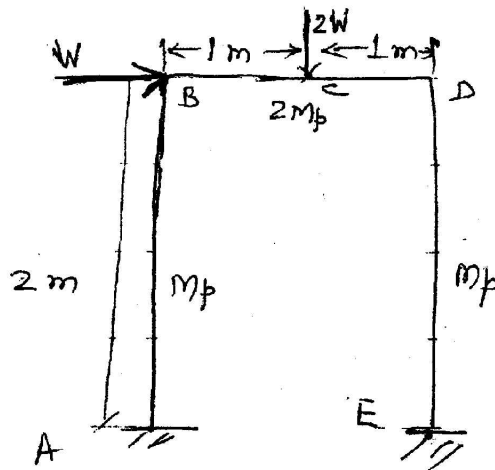

Fig. 6
- 5 Compute the collapse load for the portal frame as shown in Fig. 6.